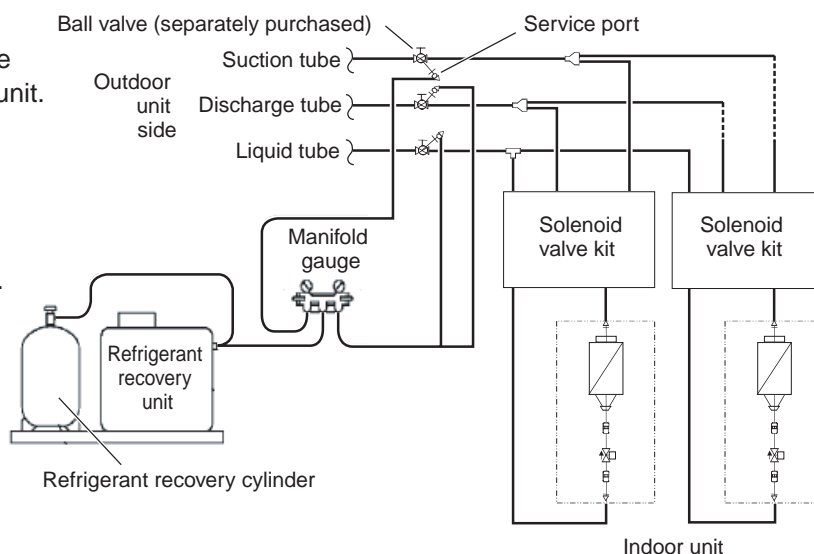

Fig. 4
- (1) If a ball valve with a service port has been provided in the indoor unit as shown in Fig. 4, follow the instructions given in (2) through (7) below. If the service port is instead located in the outdoor side, follow the instructions in "4-2-3. Refrigerant recovery procedures (2)".
- (2) Close the discharge tube ball valve.
- (3) After running the unit in Cooling mode for about 5 minutes as described in "4-2-1. Cooling operation (for all units)", fully close the liquid tube ball valve.
- (4) Run the unit in Cooling mode for 10 to 20 minutes more.
- (5) Fully close the suction tube ball valve, and stop the operation of all units.
- (6) Use hoses to connect the manifold gauge valves, refrigerant recovery unit, and refrigerant recovery cylinder with each other. (Fig. 4) Do each connection quickly to prevent air from entering the tube.